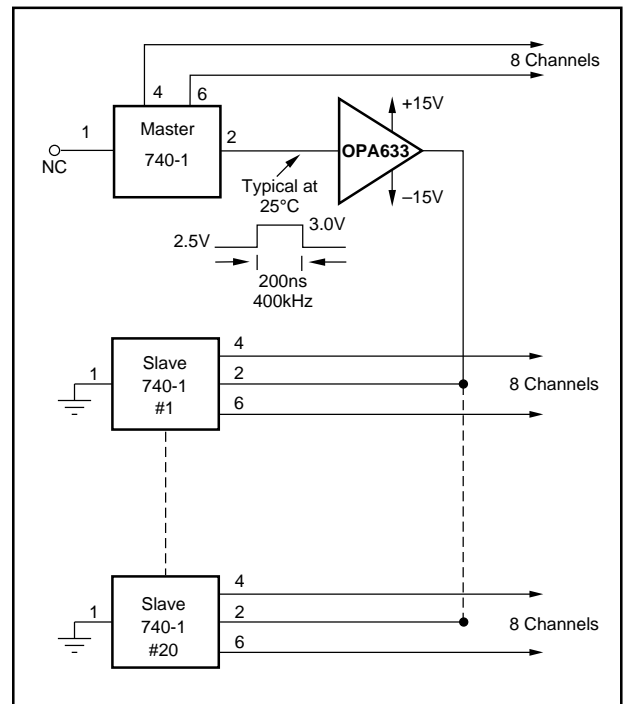
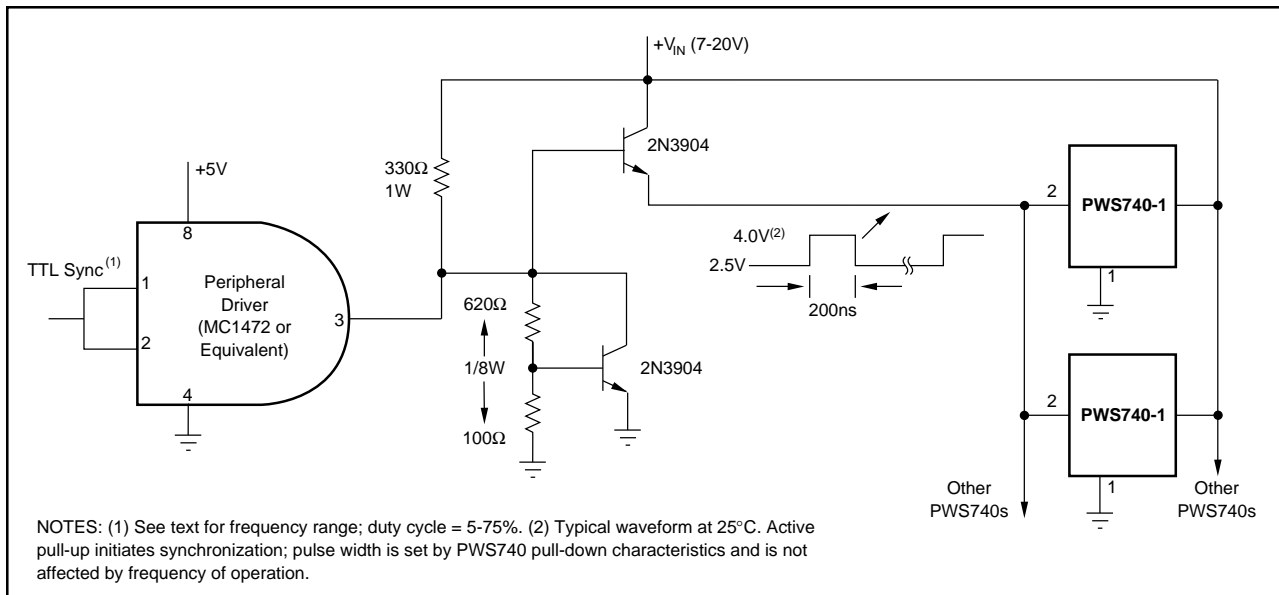

FIGURE 1. Master/Slave Synchronization of Multiple PWS740 Drivers.
FIGURE 2. External Synchronization of Multiple PWS740 Drivers with TTL-Level Signals.
Figure 1 shows a method for synchronizing a greater number of PWS740-1 drivers. One unit is chosen as the master. Its synchronization signal, buffered by a high-speed unity gain amplifier can synchronize up to 20 slave units. Pin 1 of each slave unit must be grounded to assure synchronization. Minimize capacitive coupling between the buffered sync line and the outputs of the drivers, especially at the end of long lines. Capacitance to ground is not critical, but total stray capacitance between the sync line and switching outputs should be kept below 50pF. Where extreme line lengths are needed, such as between printed circuit boards, additional OPA633 buffers may be added to keep drive impedance at an acceptably low value. Because of temperature-influenced shifts in the switching levels, best operation of this circuit will occur when differences in ambient temperatures between the PWS740-1 drivers are minimized, typically within a 35°C range.
If larger temperature gradients are likely to occur, the user may wish to consider the synchronization method shown in Figure 2. This circuit is driven from an external TTL-compatible source such as a system clock or a simple free-running oscillator constructed of TTL gates. The output stage provides temperature compensation over the rated temperature range of the PWS740. The signal source frequency should be about 800kHz for rated performance, but may range from 500kHz to 2MHz with slightly reduced performance. Precautions with regard to circuit coupling and layout are the same as for the circuit of Figure 1. Repeaters using the OPA633 may be used for long line lengths. Symmetry and good high-frequency layout practice are important in successful application of both of these synchronization techniques.
(1) Controlling dimension: Inch. In case of conflict between the English and metric dimensions, the inch dimensions control.
(2) Dimensioning and tolerancing per ANSI Y14.5M-1982.
(3) Dimensions A, A₁, and L are measured with the package seated in JEDEC seating plane gauge GS-3.
(4) D and E₁ dimensions for plastic packages do not include mold flash or protrusions. Mold flash or protrusions shall not exceed .010 inch (0.25mm).
(5) E and eA measured with the leads constrained to be perpendicular to plane T.
(6) eB is measured at the lead tips with the leads unconstrained.
(7) N is the maximum number of terminal positions.
(8) Corner leads (1, 4, 5, and 8) may be configured as shown in Figure 2.
(9) For automatic insertion, any raised irregularity on the top surface (step, mesa, etc.) shall be symmetrical about the lateral and longitudinal package center-lines.